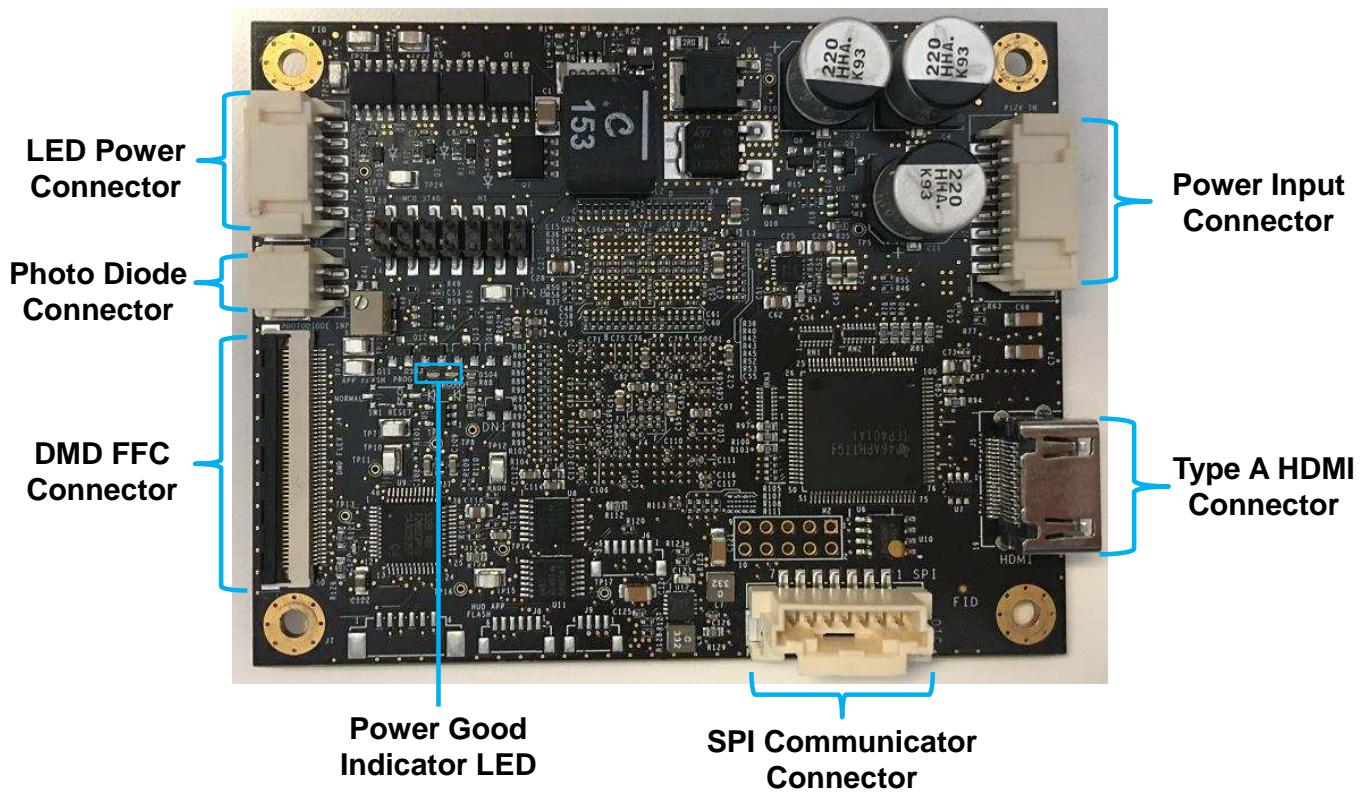
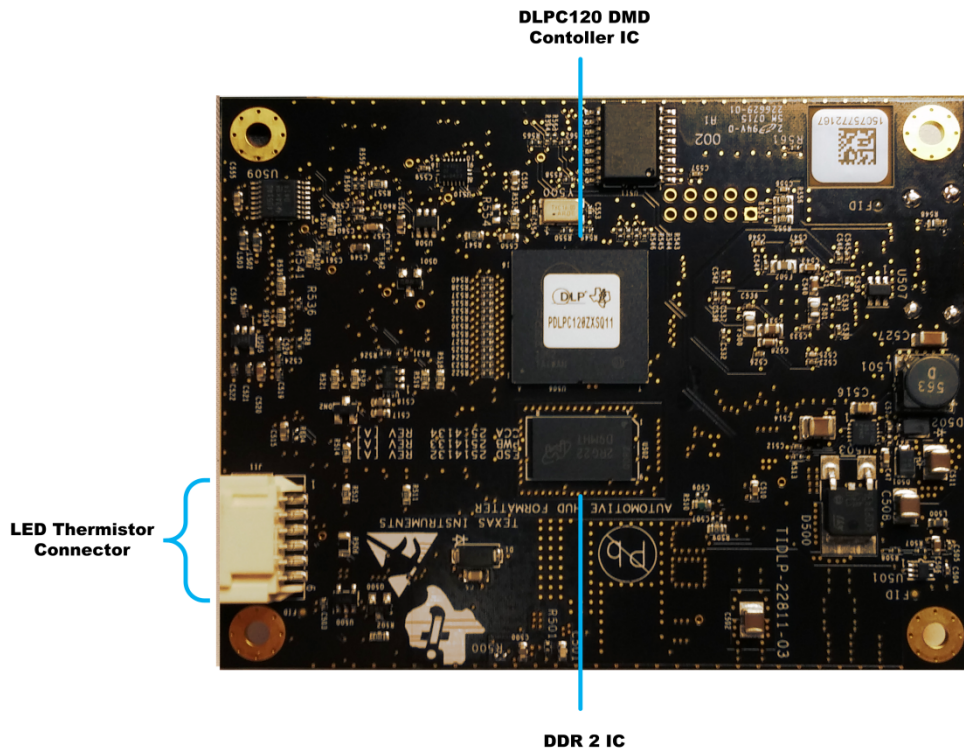

Figure 1-2. Formatter Controller Board Front
Figure 1-3. Formatter Controller Board Back
- It is expected that this EVM will be mounted to a customer-supplied projector, or picture generation unit (PGU). This guide does not address the PGU mounting instructions. Refer to Figure 1-2 and Figure 1-3 for the location of the connectors on the formatter boards, and please use caution to get these connections correct on the PGU.
- Once the system is powered up, a green indicator light on the Formatter Board will illuminate, and the computer will detect an additional display called DLP\_WVGA. See Figure 1-2 to locate the indicator LED.
This section describes the pinout signals for each of the connectors of the electronics boards. Refer to Figure 1-2 and Figure 1-3 for the location of each connector.